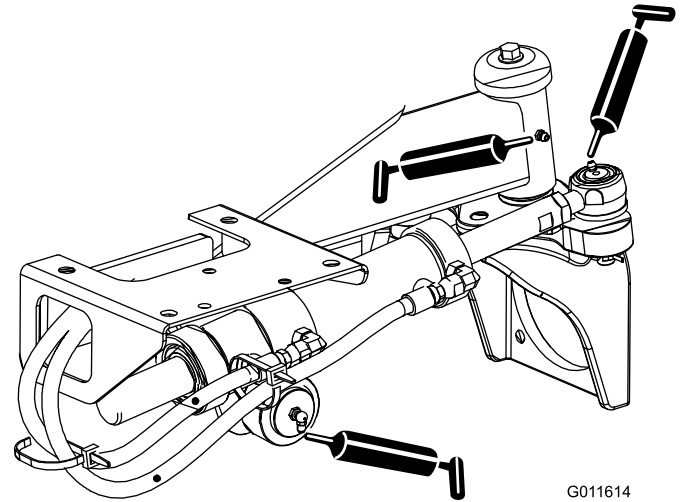

Figure 36
- Steering cylinder ball joints (2) and rear axle (1) (Figure 36)